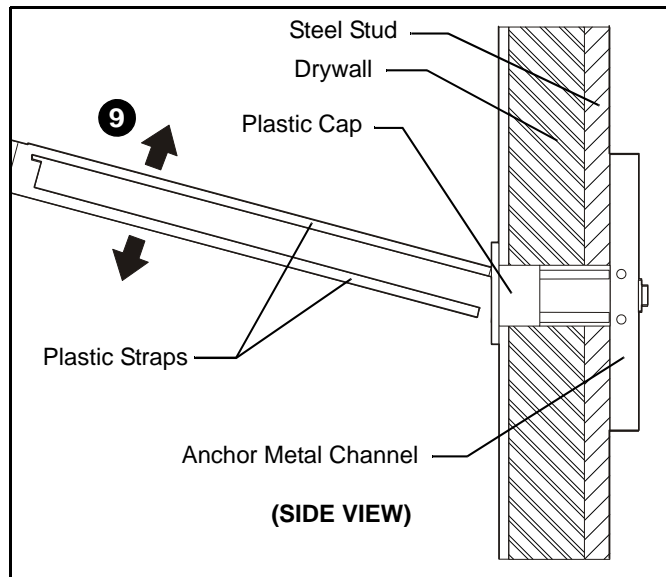

Figure 12
9. Snap off plastic straps on anchor at wall by pushing side to side, snapping off straps level with flange of plastic cap. (See Figure 12)